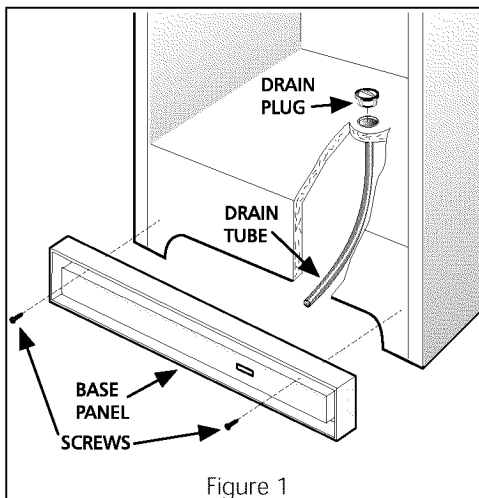

Figure 1
2. Remove base panel (some models) by unscrewing two screws from front of base panel. (Figure 1)
- **On upright models** with a defrost drain (Figure 1), remove the drain plug on the inside floor of the freezer by pulling straight out. To access the external drain tube on models with a base panel, first remove the two screws from the base panel. Locate the drain tube near the left center under the freezer. Place a shallow pan under the drain tube. Defrost water will drain out. Check pan occasionally so water does not overflow. Replace the drain plug when defrosting and cleaning are completed. If the drain is left open, warm air may enter the freezer.